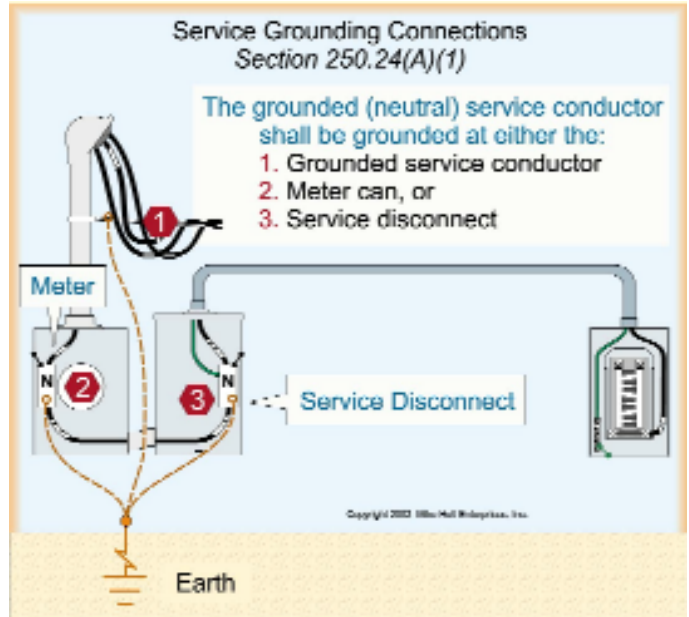

Figure 250-53
(1) **Accessible Location.** A grounding electrode conductor shall connect the grounded (neutral) conductor at service equipment to the grounding electrode. This connection shall be at any accessible location, from the load end of the service drop or service lateral, up to and including the service disconnecting means. Figure 250-53